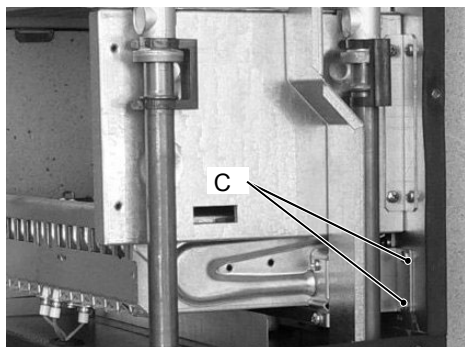

Figure 4
- 5) Unscrews the screws C (Figure 4).